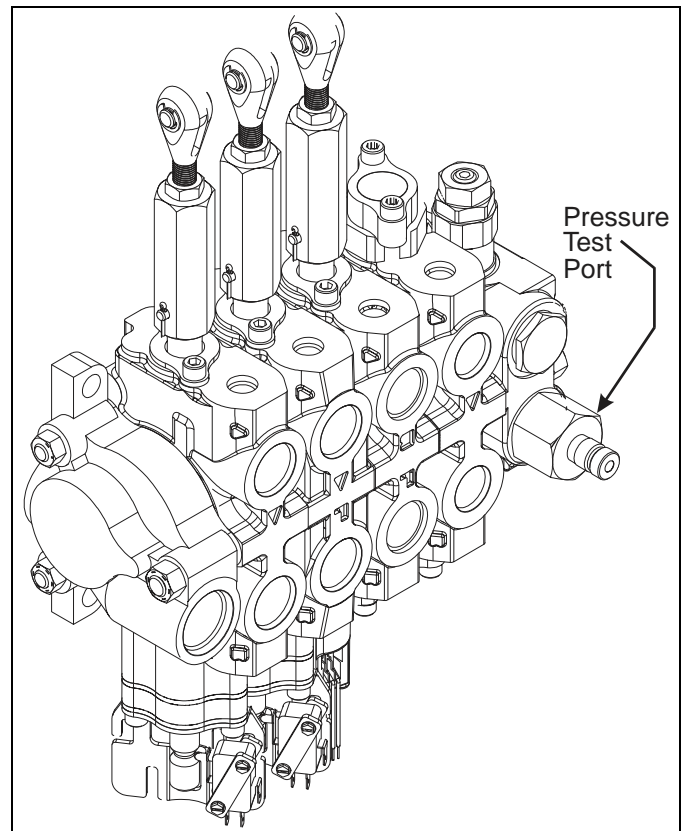

Figure 2-4: Hydraulic Pressure Test
6. Connect the pressure check kit quick-coupler (female end) to the test port coupler (male end) on the control valve. See Figure 2-4.